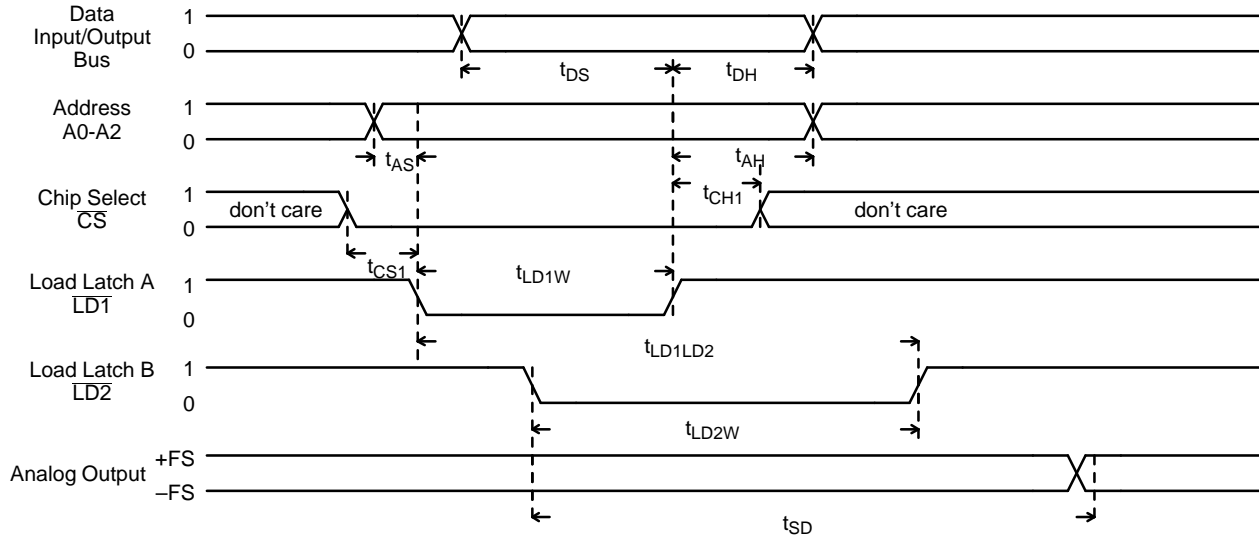

Figure 1. Loading Latch A and Updating Latch B
- 4 See Figures 1, 2, and 3. All digital input signals are specified with $t_R = t_F = 10$ ns 10% to 90% and timed from a 50% voltage level.